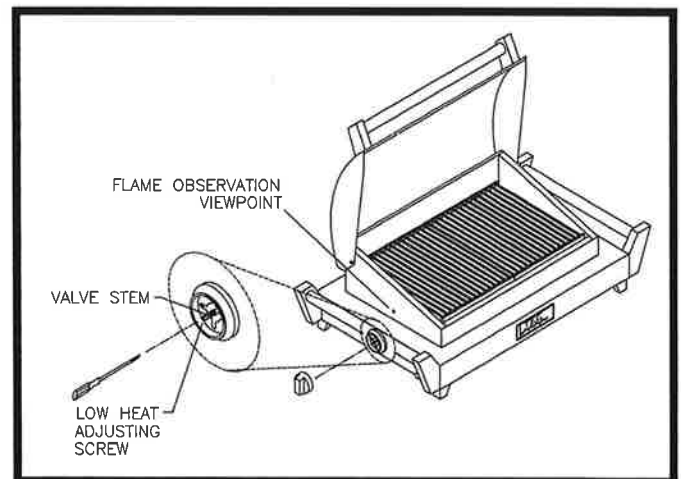

Figure 13 Low Heat Adjustment
WARNING: NEVER ADJUST A BURNER SO LOW THAT IT MAY GO OUT DURING USE. DO NOT OPERATE GRILL IF THE LOW HEAT ADJUSTMENT SCREW IS NOT IN PLACE. (See Figure 13, page 11)
3. Remove the Burner Control Knob from the valve stem (See Figure 13).
5. Turn the Low Heat Adjustment Screw clockwise to reduce the heat intensity or counter-clockwise to increase the heat intensity. At its optimal low heat adjustment, the burner input will be just high enough to produce a small blue flame. The Burner Flame can be observed while making the low heat adjustment by looking through the Flame Observation Viewpoint on the left side of the grill just above the Burner Control Knob (See Figure 13).
1. Turn the silver-colored ribbed collar surrounding the push button, counter-clockwise one-half turn and pull out to remove. (See Figure 13, Page 14)